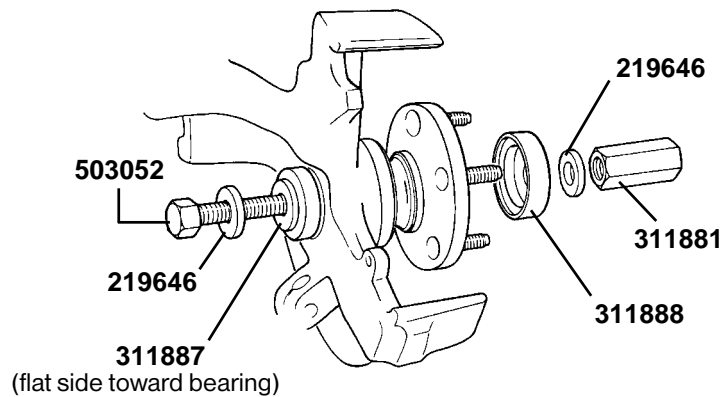

Figure 4
5. Assemble the tool components as shown in Figure 4, and install the hub. **Important: The bearing installer must be assembled with the flat side toward the bearing and the small diameter pilot on the side away from the bearing.**